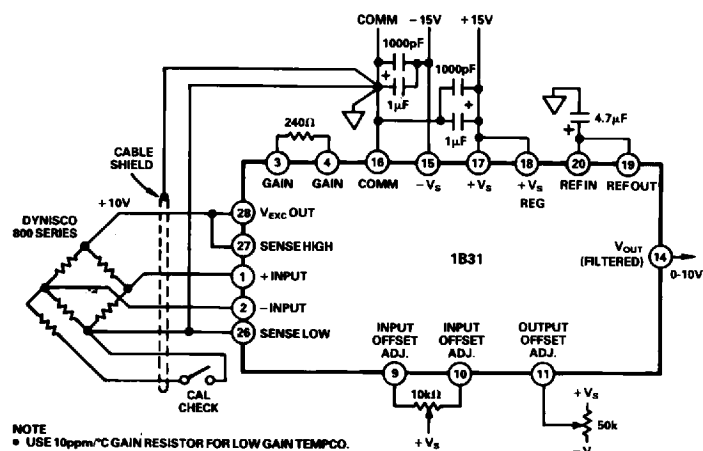

Figure 16. Pressure Transducer Application
**Pressure Transducer Interface:** A strain gage type pressure transducer (Dynisco 800 series) is interfaced to a 1B31 in Figure 16. Regulated excitation of  $+10\text{V}$  dc is provided for a  $30\text{mV}$  full-scale output. The gain is set at 333.3 to achieve a  $0-10\text{V}$  output for a  $0-10,000$  psi range of the transducer. A shunt calibration resistor is built into the transducer for easy verification of the 80%-point of its full-scale output. A typical shielding scheme to preserve the excellent performance characteristics of the 1B31 is also shown. To avoid ground loops, signal return or cable shield should be grounded only at one point.